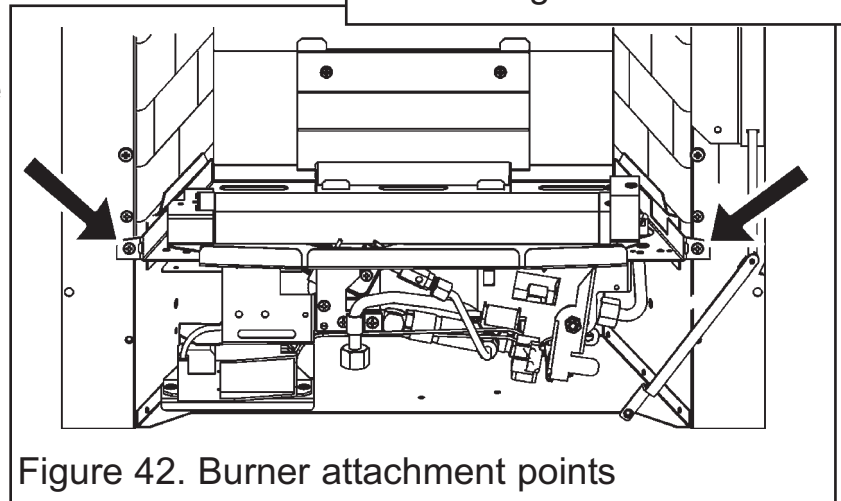

Figure 42. Burner attachment points
4. Detach the burner unit from the convection box by removing two screws (See figure 42).